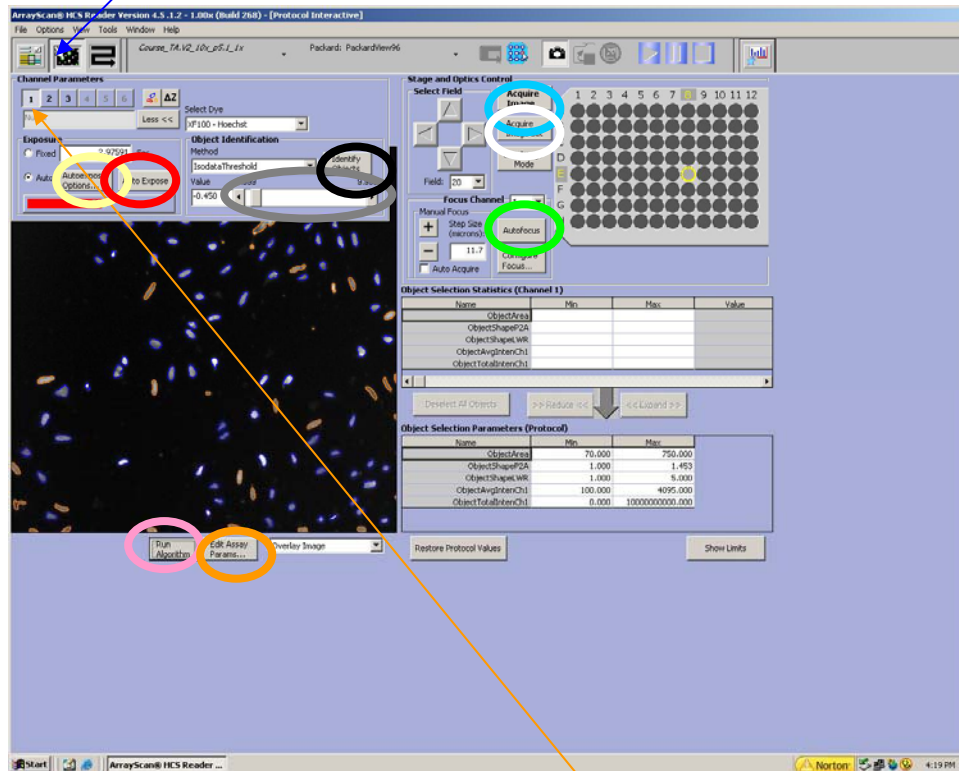

Figure 4. Protocol Interactive window.
Select "File" -> "Save Assay Protocol" on the main menu to save your settings. Click the second leftmost icon on the tool bar. You should see something resembling Fig. 4. This is the Protocol Interactive window.
5. Protocol Interactive window. Make sure that channel 1 is selected in Channel Parameters. Click "Autoexpose Options" Button (yellow circle in Fig. 4) and select E7 for well, and 1 for field, click ok. These settings will determine which well and field the software uses when it determines the exposure time for DAPI channel.
6. Channel 1 acquisition settings. On the right, select E8 well by clicking on that well. Again, make sure that channel 1 is selected. Click "Acquire Image" button (blue circle in Fig. 4) for getting an image. You will probably not see much because the exposure time is not set and the image is not focused. To fix that, click "AutoExpose" button (red circle in Fig. 4) on the left. Wait until the software is done or it may crash. Then click the "AutoFocus" button (green circle in Fig. 4) and again wait till the software has performed the autofocus. If the bar below AutoExpose is blue or red (= under/overexposed), click on the AutoExpose button again until the bar is green (exposure time ok). You should now see the DAPI-stained nuclei.
8. Acquisition of an image set. Once both DAPI and GFP channels look ok, click "Acquire Image Set" button (white circle in Fig. 4) to acquire images of both channels.
9. Setting the threshold for channel 1. Select channel "1", then click "Run Algorithm" button (pink circle in Fig. 4). The algorithm (= bioapplication that you are using) will show selected objects in blue and rejected objects in orange. Selected objects are nuclei whose average fluorescence intensity (in DAPI channel) is above the threshold, and rejected objects are nuclei whose average intensity is below the current threshold. Also, nuclei that touch the borders of the imaging area are rejected.
The aim is to have all the nuclei selected (= blue). If that is not the case, you need to lower the threshold by dragging the slide bar above the image (grey circle in Fig. 4) more to the left. Every time you want to see the effect of changing the threshold value, you must click "Run Algorithm" button again. If the blue line seems to be outside the true border of the DAPI fluorescence, the threshold is too low, and have to be increased by dragging the slide bar to the right. If there are nuclei that do not separate well or some other unsatisfactory segmentation, it can be corrected using more advanced features of the software (which will not be covered here).
- click "Identify Objects" (black circle in Fig. 4)